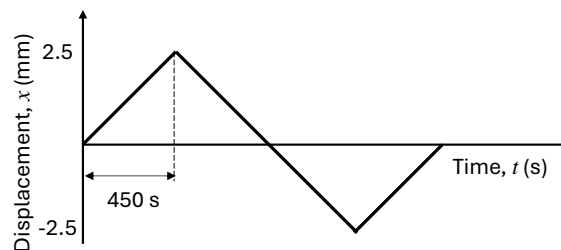

Figure 2: Triangle wave to follow using feedback control
- After calibration, implement feedback control to follow a ± 2.5 mm amplitude triangle wave at $6.7 \mu\text{m/s}$ for one period, see Figure 2 . To generate this signal, a LabVIEW file, Triangle wave signal.vi is provided in the LabVIEW project.